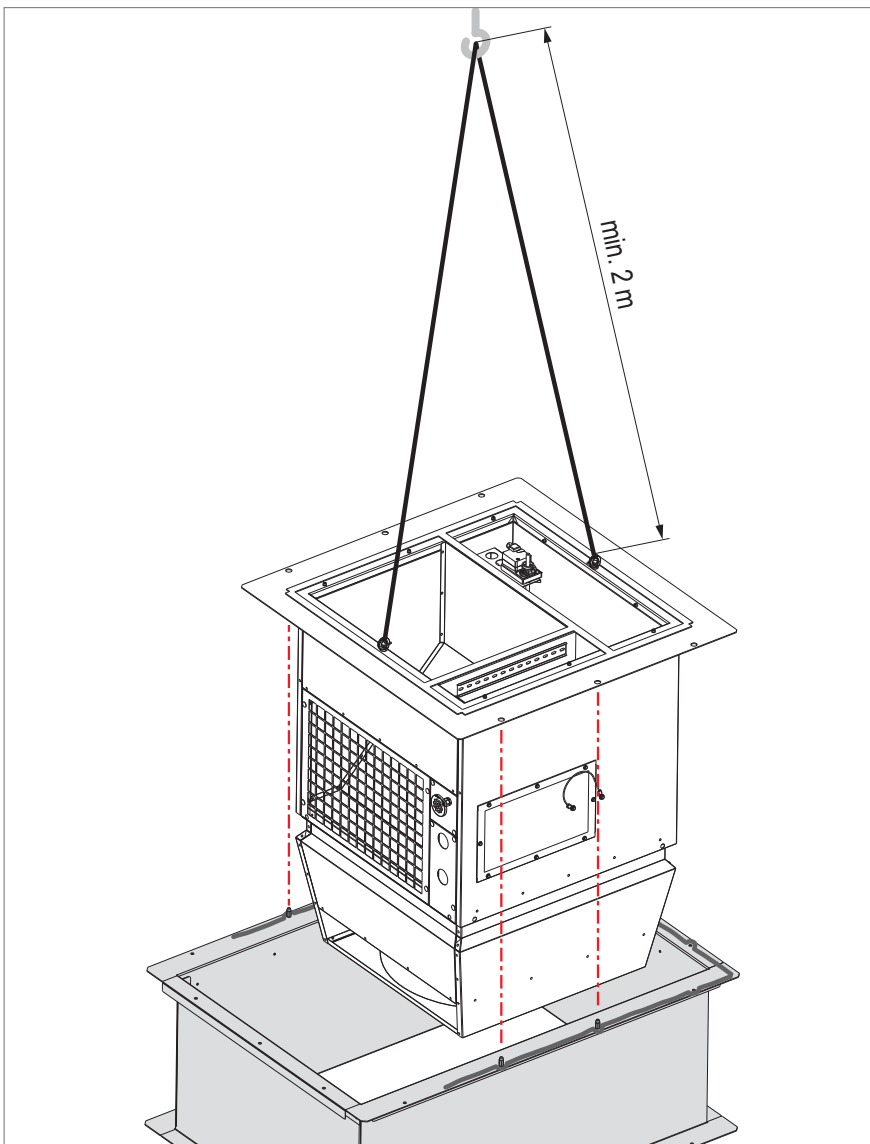

Fig. 29: Hanging the below-roof unit
- Heed the minimum length of the lifting ropes (see Fig. 29).